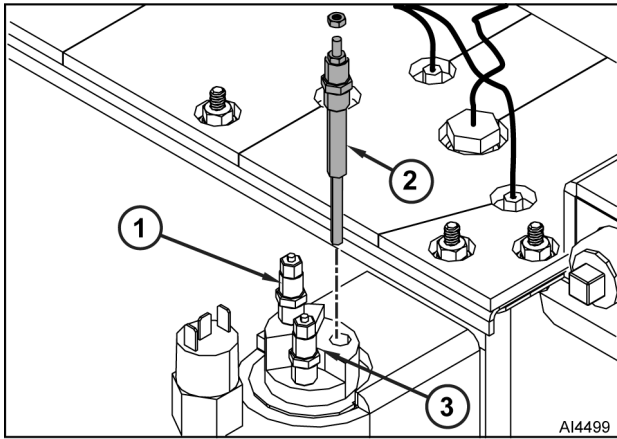

Fig. 42
- High Level (1, Fig. 42).
- Low Level (2) and / or
- Low Level Cut Off (3).